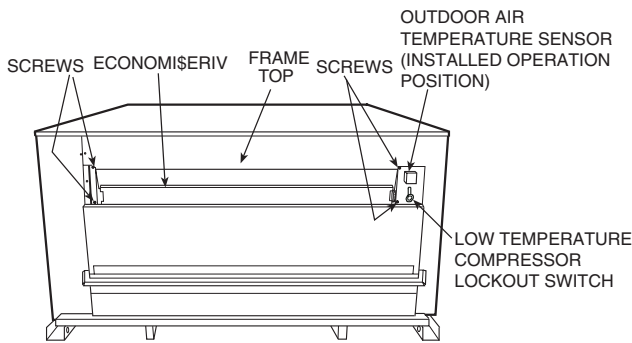
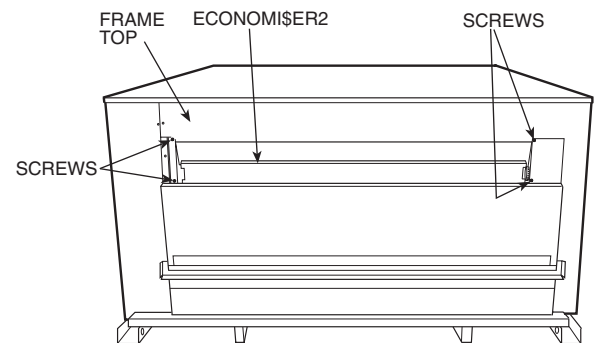
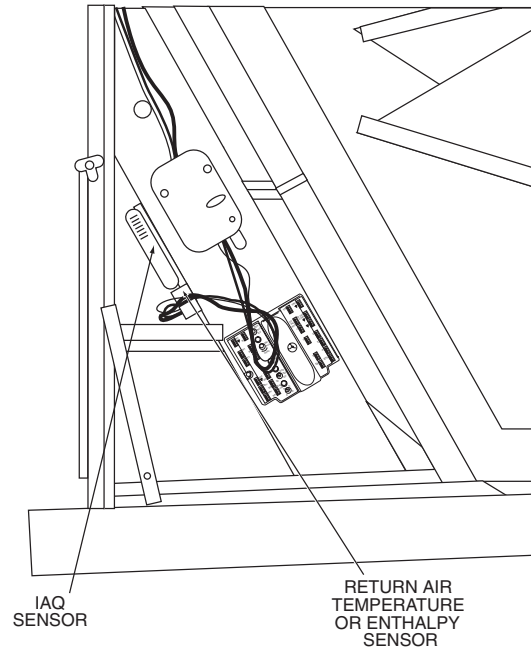
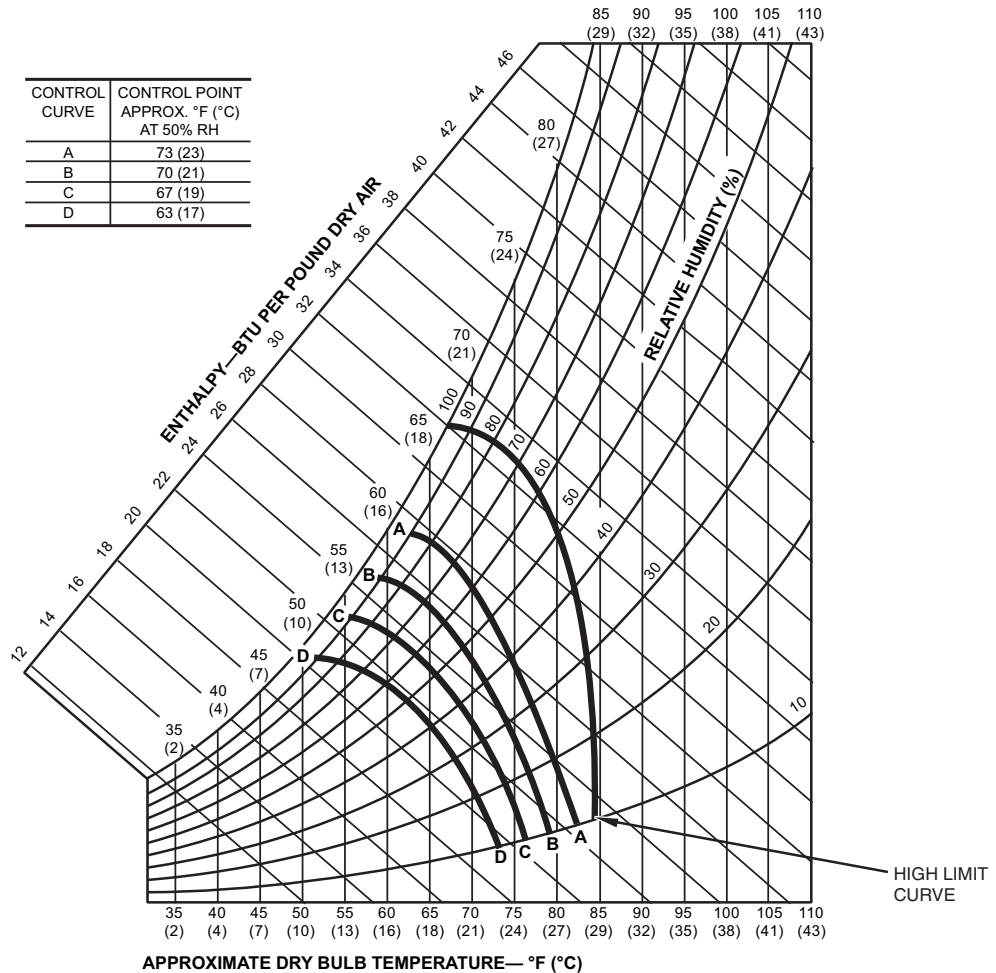

Fig. 32 — EconoMiSerIV Component Locations — End View
Fig. 34 — EconoMiSer2 Component Locations
Fig. 39 — Return Air Temperature or Enthalpy Sensor Mounting Location
Fig. 40 — Enthalpy Changeover Set Points
OPTIONAL ECONOMISERIV AND ECONOMISER2 — See Fig. 32 and 33 for EconoMiSerIV component locations. See Fig. 34 for EconoMiSer2 component locations.
2. Relocate outdoor air temperature sensor from shipping position to operation position on EconoMiSerIV. See Fig. 32.
Outdoor Air Temperature (OAT) Sensor — The outdoor air temperature sensor (HH57AC074) is a 10 to 20 mA device used to measure the outdoor-air temperature. The outdoor-air temperature is used to determine when the EconoMiSerIV can be used for free cooling. The sensor must be field-relocated. See Fig. 32. The operating range of temperature measurement is 40 to 100 F.
Low Temperature Compressor Lockout Switch — The EconoMiSerIV is equipped with an ambient temperature lockout switch located in the outdoor airstream which is used to lockout the compressors below a 42 F ambient temperature. See Fig. 32.
Differential Dry Bulb Control — For differential dry bulb control the standard outdoor dry bulb sensor is used in conjunction with an additional accessory return air sensor (part number CRTEMPSN002A00). The accessory sensor must be mounted in the return airstream. See Fig. 39.
Outdoor Enthalpy Changeover — For enthalpy control, accessory enthalpy sensor (part number HH57AC078) is required. Replace the standard outdoor dry bulb temperature sensor with the accessory enthalpy sensor in the same mounting location. See Fig. 32. When the outdoor air enthalpy rises above the outdoor enthalpy changeover set point, the outdoor-air damper moves to its minimum position. The outdoor enthalpy changeover set point is set with the outdoor enthalpy set point potentiometer on the EconoMi\$erIV controller. The set points are A, B, C, and D. See Fig. 40. The factory-installed 620-ohm jumper must be in place across terminals SR and SR+ on the EconoMi\$erIV controller. See Fig. 32 and 41.
Replace the standard outside air dry bulb temperature sensor with the accessory enthalpy sensor in the same mounting location. See Fig. 32. Mount the return air enthalpy sensor in the return airstream. See Fig. 39. The outdoor enthalpy changeover set point is set with the outdoor enthalpy set point potentiometer on the EconoMi\$erIV controller. When using this mode of changeover control, turn the enthalpy set point potentiometer fully clockwise to the D setting.